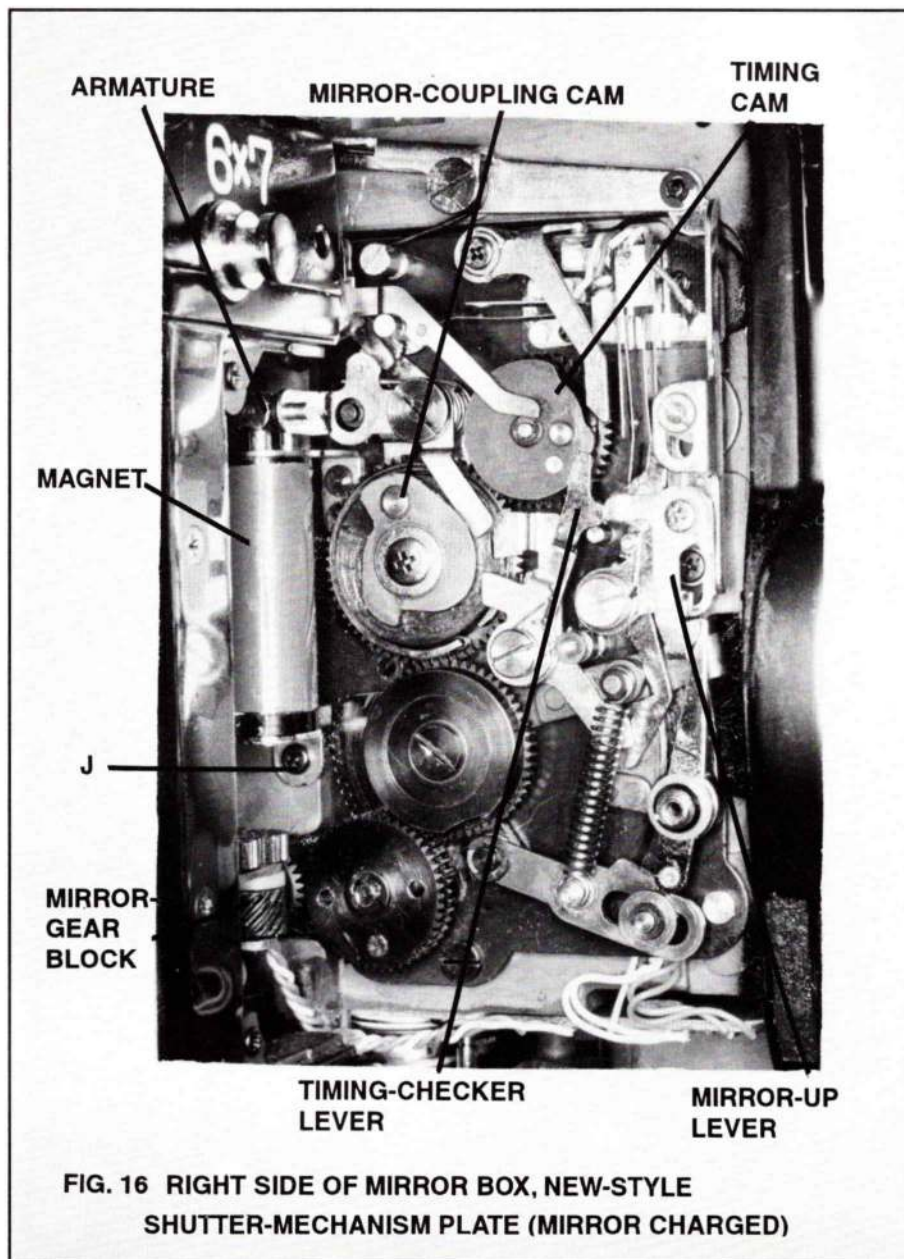

FIG. 16 RIGHT SIDE OF MIRROR BOX, NEW-STYLE SHUTTER-MECHANISM PLATE (MIRROR CHARGED)
4. remove mirror-gear block, Fig. 16—2 screws (shoulder screw toward top)
5. Replace the spacer washer (if used) over the pivot of the mirror 5th gear. Then replace the mirror-gear block, Fig. 16. Fit the pivot of the 5th-gear shaft into the bearing hole on the underside of the mirror-bear block and replace the 2 screws (shoulder screw at top).